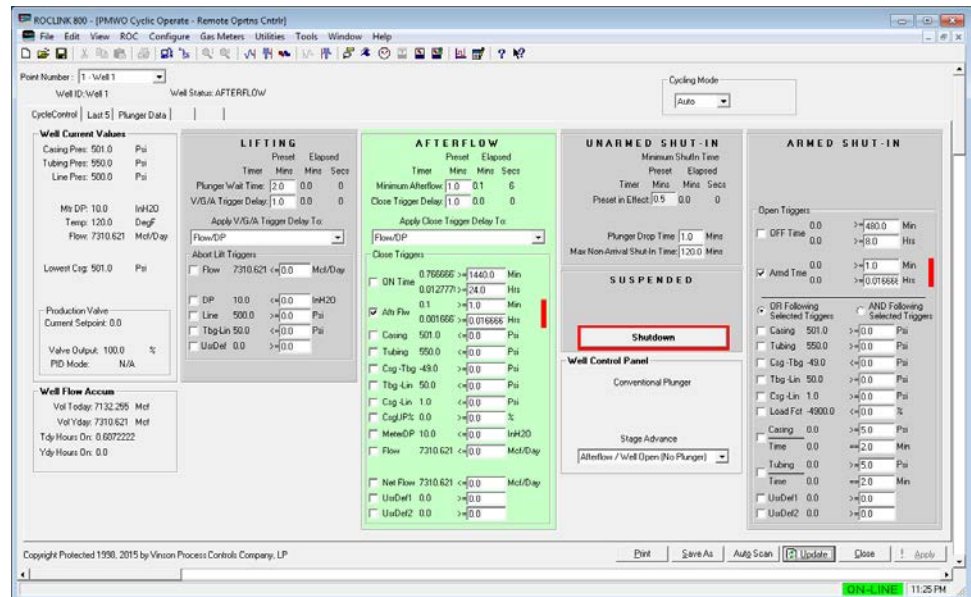

Figure 107. Plunger Lift Simulation – Cyclic Control Tab, with the Afterflow State highlighted
- Wait for the Armed Shutin time trigger to become true, and for the program state to transition to **Lifting**, as shown in *Figure 107*.